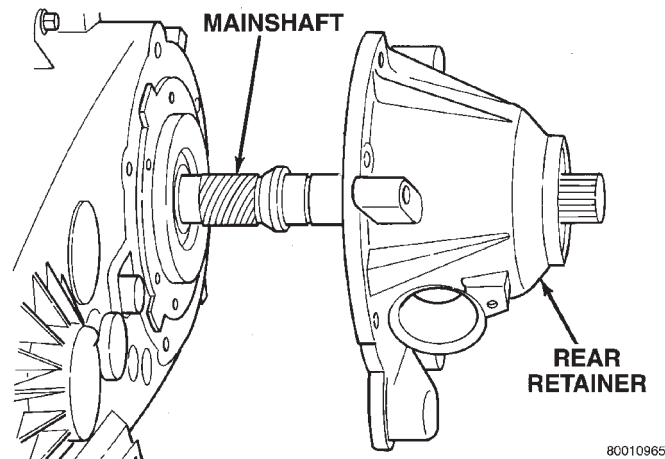

Fig. 14 Rear Retainer Removal
(8) Remove rear retainer. Tap retainer with mallet and pry upward to break sealer bead. Then slide retainer off case and output shaft (Fig. 14).